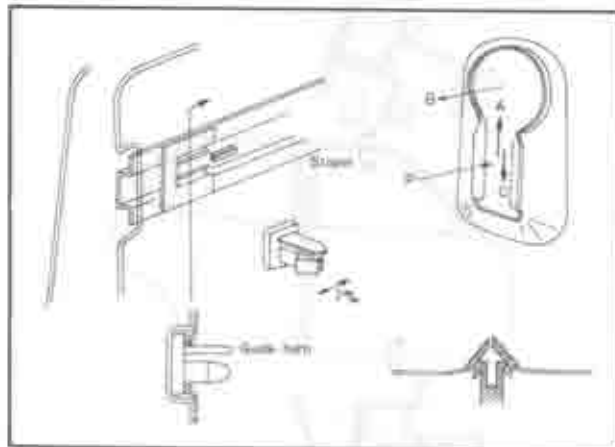

Fig. 14-38 Rear seat back.
3. Raise the seat to full up position and pull it in the B direction shown in Fig. 14-38.
2. Push the rear seat back attaching fastener in P direction and press it down into the catch of the body as shown in Fig. 14-38.